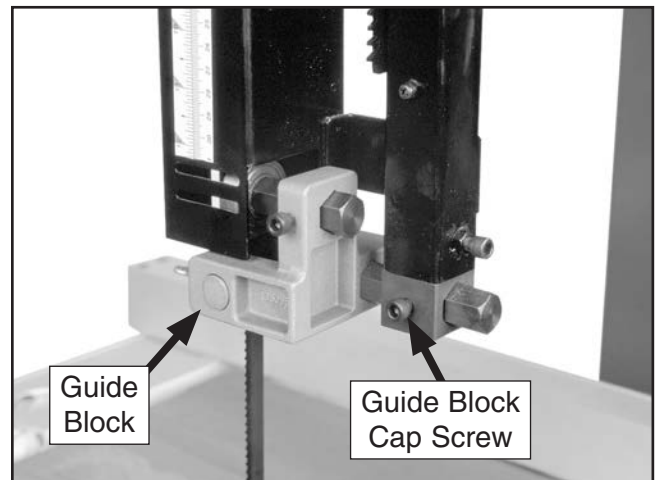

Figure 50. Back of upper blade guides.
4. Loosen the guide block cap screw shown in **Figure 50**.